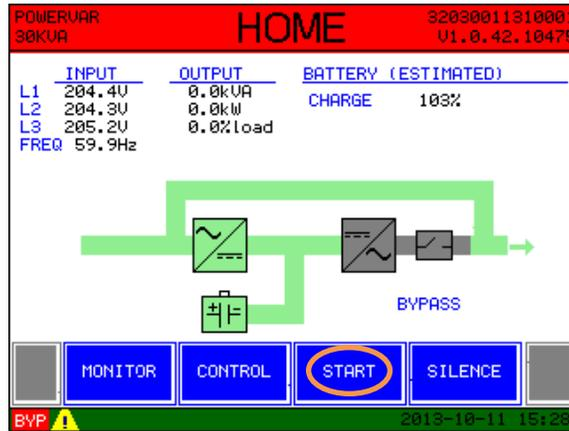

Fig. 4-40
Step 8: The UPS may now be started by pressing the “start” button at the bottom of this screen (Fig. 4-40).